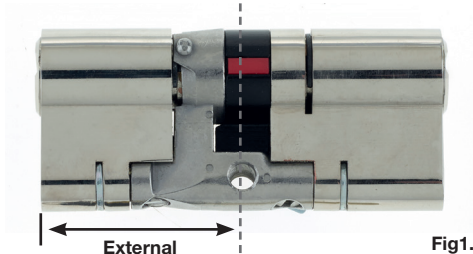

Fig1.
3. From the external side of the door insert the cylinder with the Anti-Snap elements on the external side as shown in Fig 1.